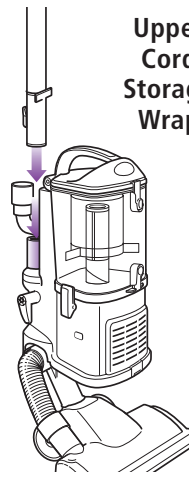

Fig. 10
- 3 Attach the end of the extension wand to the tube on the back of the detachable canister until it clicks into place. **(Fig. 10)**
- 4 Slide the accessory holder (a) positioned opposite the upper cord wrap, over the extension wand. Align the tab with the groove and push down. **(Fig. 10)**